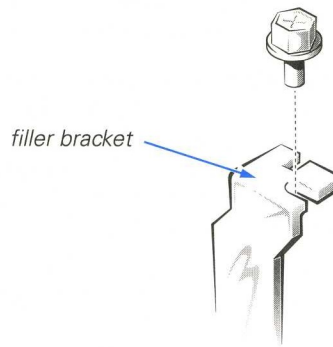

**Figure 2-7. Removing the Filler Bracket**
4. Unscrew and remove the metal filler bracket that covers the card-slot opening for the expansion slot you intend to use (see Figure 2-7).